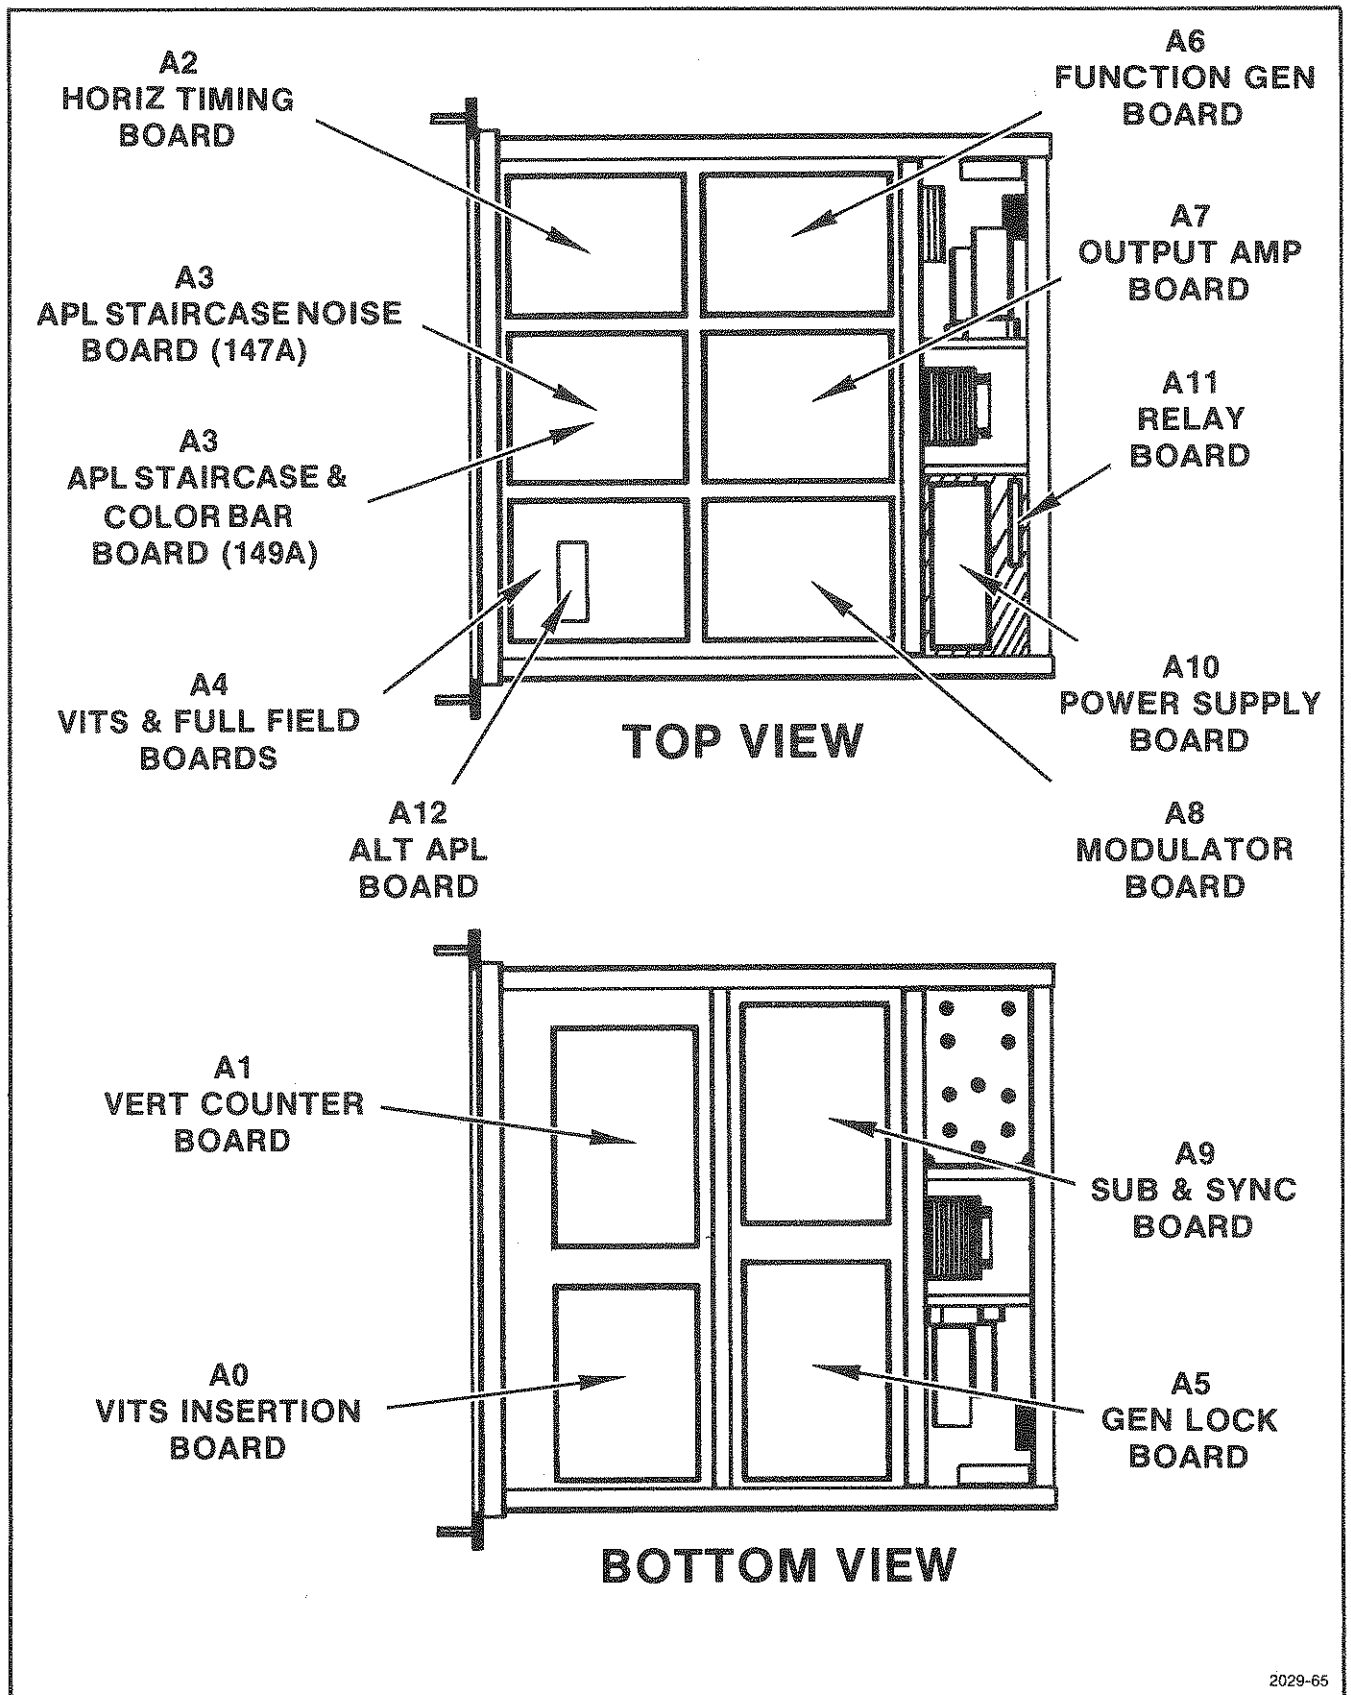

Fig. 2-1. Location of circuit boards.
**Circuit Boards.** Fig. 2-1 shows the location of each circuit board within the instrument. Each circuit board is shown (full view) opposite the appropriate diagram in the Diagram section. Each electrical component on the board is identified by its circuit number. In most cases, these circuit numbers were assigned on a grid system as a convenience to the user of the instrument. For example,